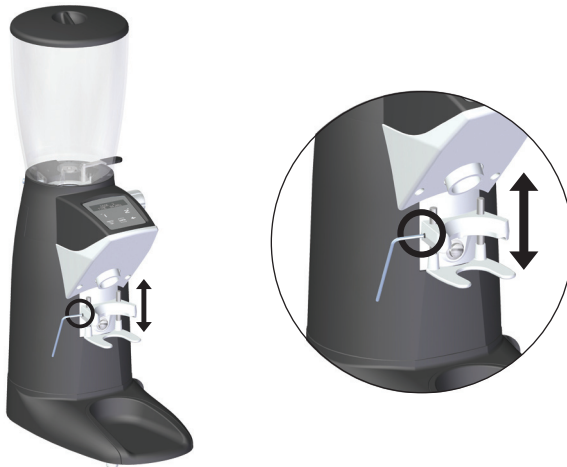

Fig. 1
1. Loosen the two adjustment screws (10) found on each side of the upper portafilter fork (16), by using the *Allen Key* included with your grinder.
3. Tighten the screw (10) found on each side of the upper portafilter fork (16), with the *Allen Key* provided (*Fig. 1*).
Unpack the grinder carefully and place it in the assigned work space. Before placing the bean hopper on the grinder, loosen the security screw found on the upper collar of the grinder (5). Place the bean hopper (2) on the upper part of the grinder so that the bean trap lever (4) is positioned on the right side of the grinder in the **CLOSED** position (Fig. 1). Once the bean hopper is placed on the grinder, rotate it clockwise until it is firmly in place and can rotate no further. If desired, replace the hopper security screw (5) to ensure the hopper cannot be removed manually.